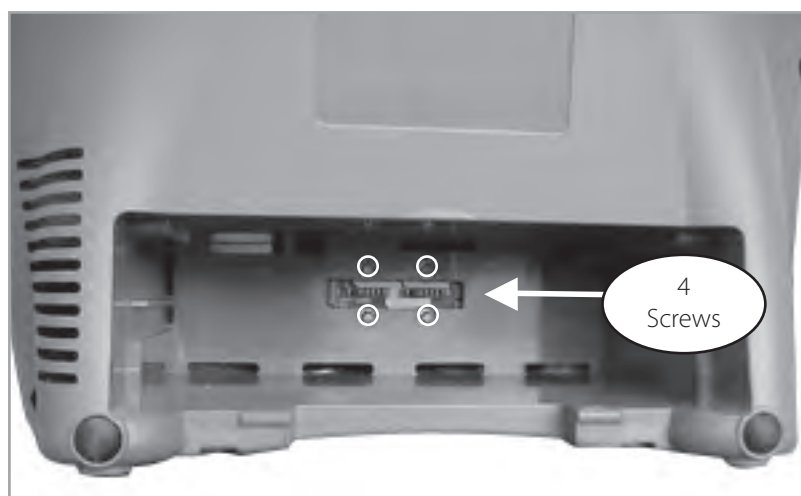

Figure 56: Battery Bridge Board Removal.
1. Remove the Power Cartridge and unscrew the 4 screws (M3x12 Pan Head SEM Screw, P/N 6974-312-SEQ) shown in Figure 56.
10. Screw in the 4 screws shown in Figure 56.